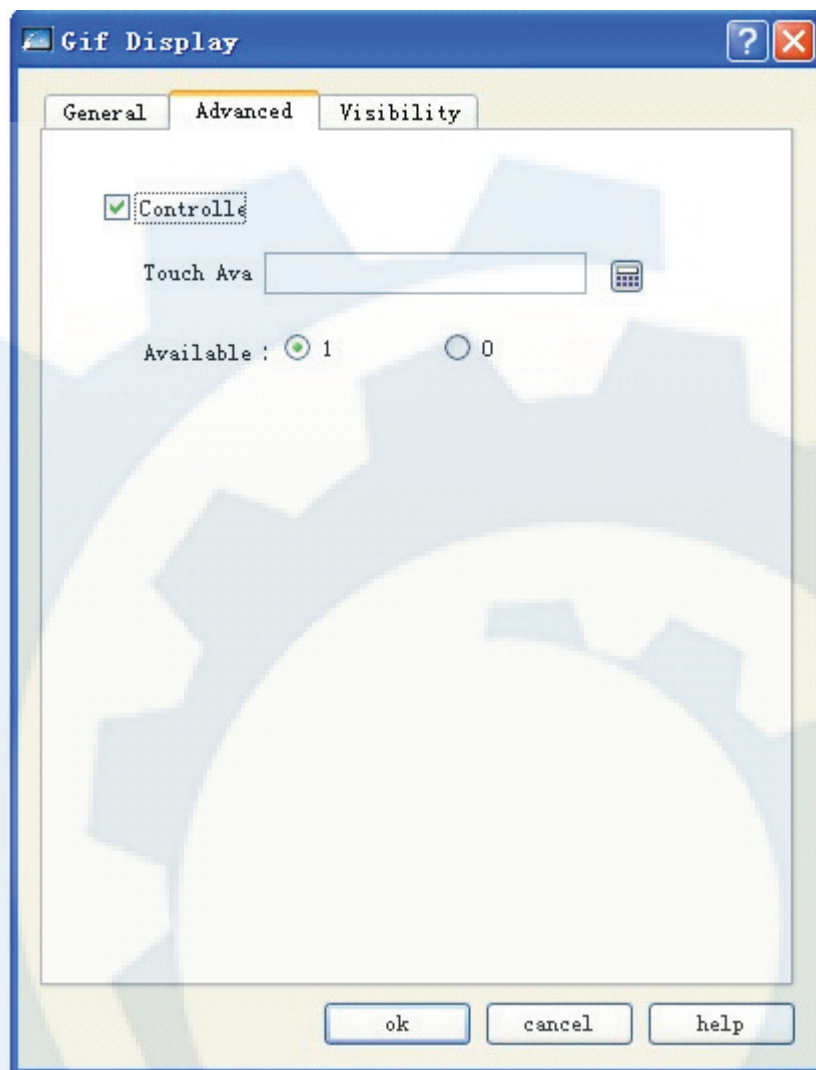

Figure 4-54: Advanced tab of GIF display
- Click Advanced tab to enter Advanced properties setting page. See Figure 4-54.